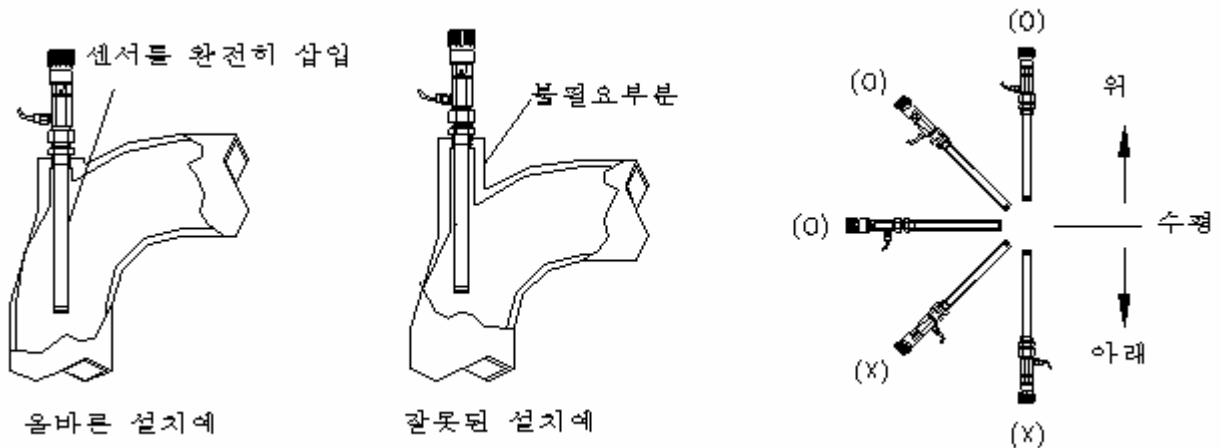

Fig. 4 Installation of Sensor
- 3) Sensor shall be sunk into a medium deeply at 4/5. (See the Fig. 4)